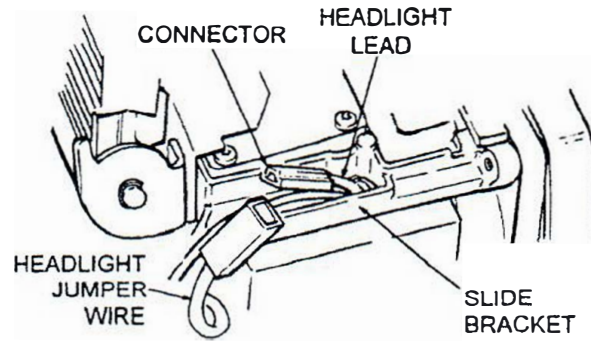

Figure 19. Separation of In-line Connector of Headlight Leads
- A. See Figure 19. One of the headlight leads has an in-line connector covered by a clear piece of insulating tubing.